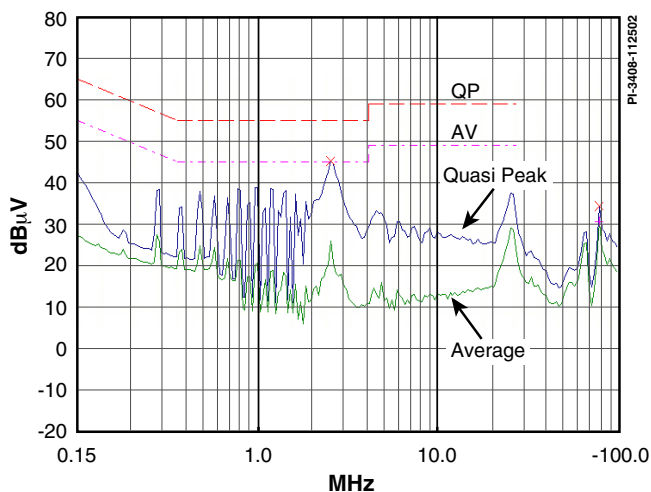

Figure 2. EMI at 230 VAC Full Load with "Artificial Hand" Grounding of Output.
- Figure 2 shows conducted EMI at 230 VAC full load, with output “Artificial Hand” grounding. Floating output return gives lower results.